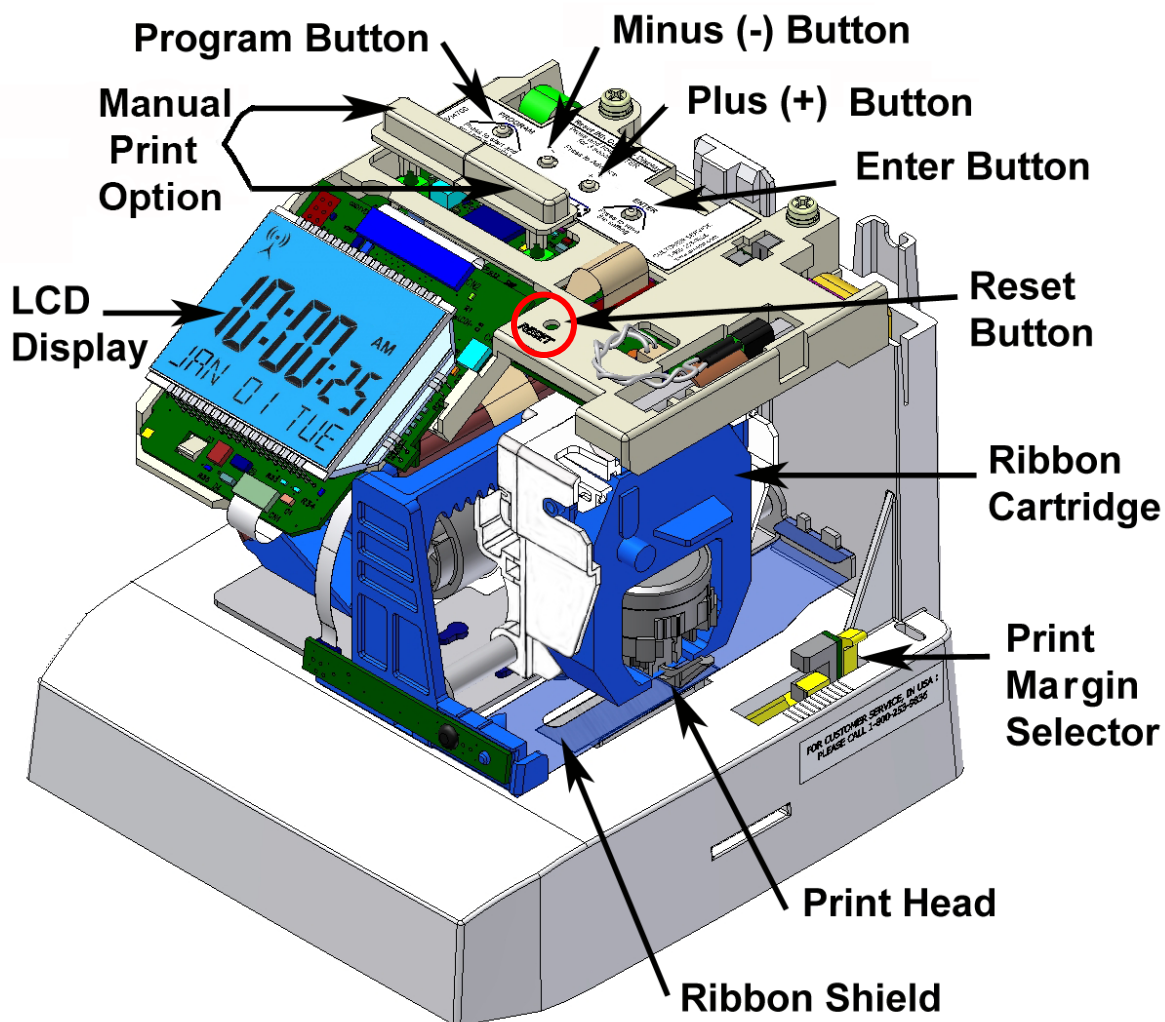

Figure 3: TCX-85 Reset Button Location.
The Amano Part number for a replacement Ribbon Shield (see Figure 3) is **AJR-600600**.
**Note** – An error message can be possibly cleared by pressing the “**Reset**” button. The Reset button is located under the cover on top of the clock (see Figure 3). The Reset button is recessed, so it will require using an object such as the tip of a ballpoint pen to press.